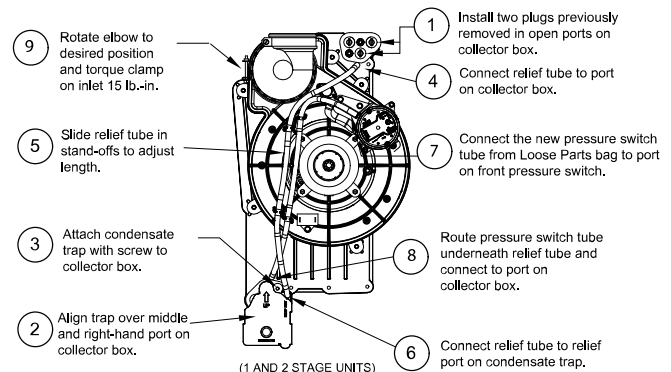

Fig. 11 – Horizontal Left Configuration (Appearance may vary)
When the furnace is installed in the horizontal right position, the condensate trap will be initially located at the bottom of the collector box, as received from the factory. See the top image in Fig. 10. When the furnace is installed in the horizontal left position, the condensate trap will be initially located at the top of the collector box, as received from the factory. See the top image in Fig. 11. In both cases the trap must be repositioned on the collector box for proper condensate drainage. See the bottom images in Fig. 10 and Fig. 11.
- **Fig. 11** shows the condensate trap and tubing before and after relocation in the horizontal left position.